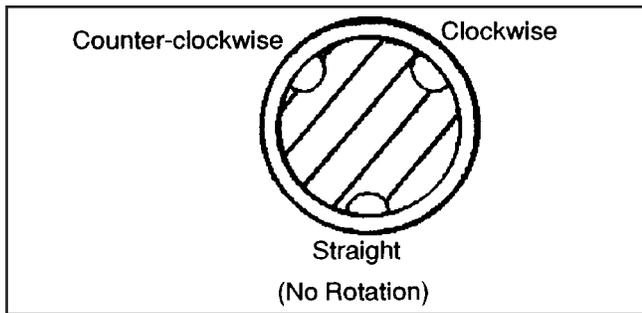

Figure 4: Plunger Rotation (Top View)
2. Turn plunger until selected groove is visible. See Figure 4.